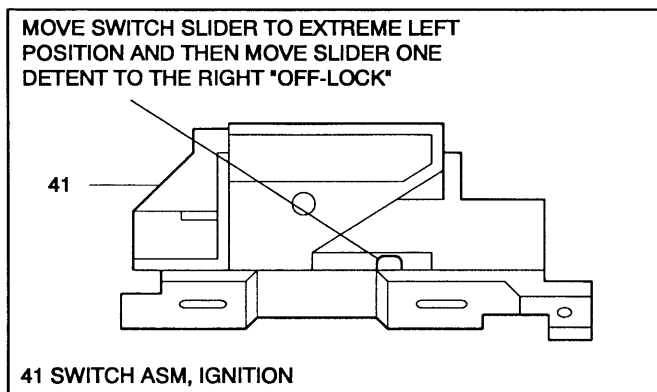

Figure 18 - Adjusting Ignition Switch
- Tighten bolts (48) to 30.0 N·m (22 lb.ft.).
NOTICE: Install ignition switch (41) to jacket (40) with switch in "OFF-LOCK" position. (See figure 18) New ignition switch will be pinned in "OFF-LOCK" position. Remove plastic pin after switch is assembled to column. Failure to do so may cause switch damage.
- Ignition switch assembly (43). (See figure 18)
- 13. Ignition switch assembly (41) and dimmer & ignition switch mounting stud (46).
NOTICE: Install ignition switch (41) to jacket (40) with switch in "OFF-LOCK" position. (See Figure 18) New ignition switch will be pinned in "OFF-LOCK" position. Remove plastic pin after switch is assembled to column. Failure to do so may cause switch damage.
1. Ignition switch assembly (41) to ignition switch actuator rod (21).
- Ignition switch assembly (41). (See Figure 18)
2. Ignition switch assembly (41) and dimmer & ignition switch mounting stud (46).